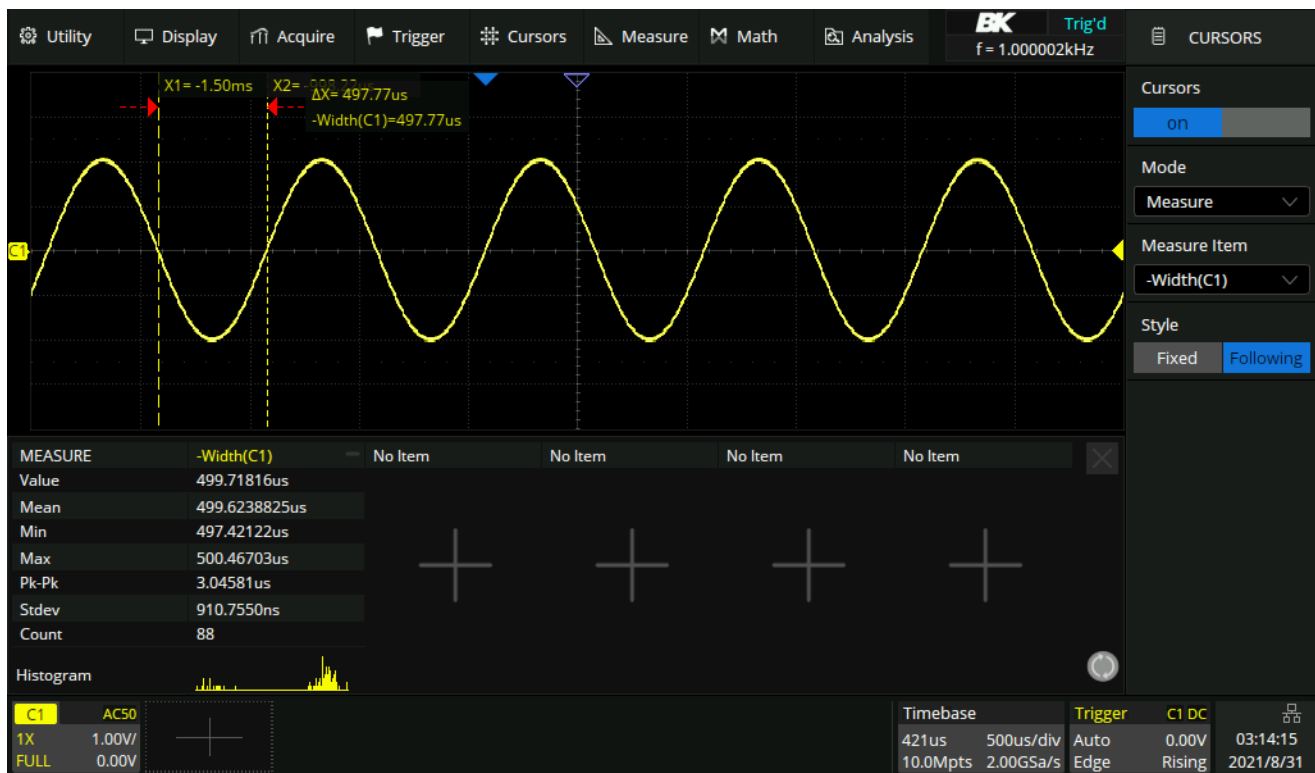

Figure 11.3 Measure Cursor Mode
- **Measure**: When measurements are displayed, this mode shows the cursor locations used to make the measurement. When you add a measurement, it becomes the one that cursors are displayed for. The measurement whose cursor locations are displayed is selected in the **Measure Item** option. Figure 11.3 demonstrates measure mode with cursors measuring width.